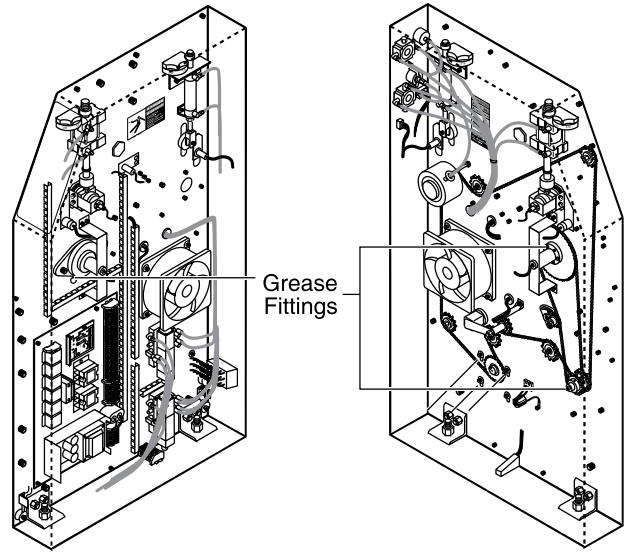

Figure 4-4: Grease Fittings
2. Using the grease gun, lubricate each grease fitting (shown in Figure 4-4) with one squirt of high temperature grease.